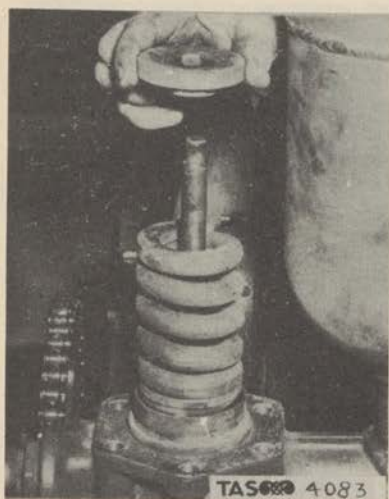

Figure 107. Removing Upper Spring Seat.
(5) Remove the upper spring seat. (Fig. 107)